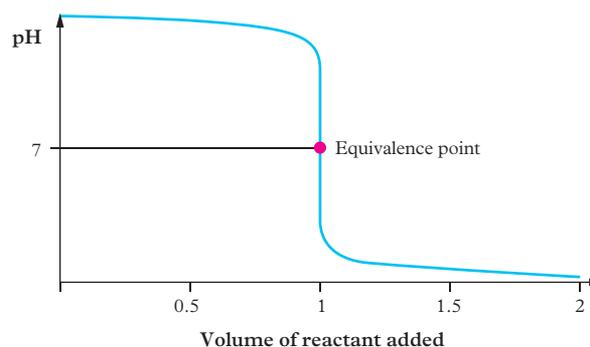

FIGURE 1 Titration curve
- ★★ 8 **Investigate** Figure 1 and justify what type of titration it represents.
Volumetric analysis was first developed in the late 1700s, and has been highly effective and useful ever since. It is typically used in food chemistry to determine the amounts of nutrients in a food sample, in the development of biodiesel as a fuel, in mining to analyse minerals, and in environmental chemistry to analyse nutrients in seawater (Figure 1).